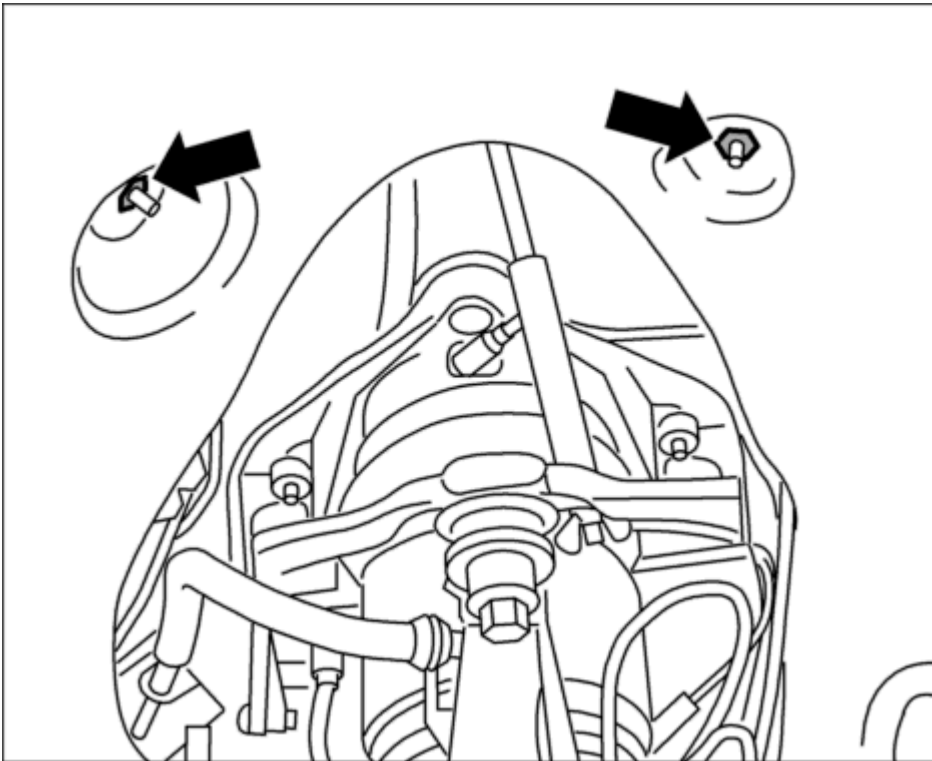

Fig. 86: Wheel housing liner plastic nut fasteners
6. Unscrew plastic nuts -**arrows**- on wheel housing liner. See **Fig. 86**.